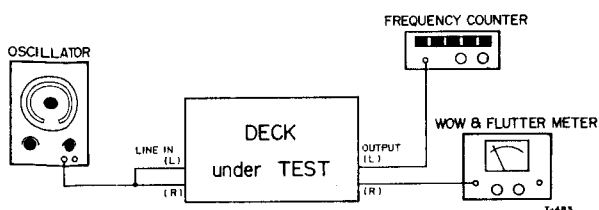

Fig. 7-5 Test Connections for Wow/Flutter and Tape Speed Test
The tape speed should be measured using TEAC flutter free tape, Model YTT-2003 (7-1/2 ips) and YTT-2002 (3-3/4 ips). These tapes contain a highly accurate 3,000 Hz tone. Connect a digital frequency counter to either line OUTPUT jack. See Fig. 7-5. The indicated frequency should be 3,000 Hz ( $\pm 30$  Hz) for all speeds during playback of the tape.
1. Connect Test equipment to the deck as shown Fig. 7-5. (Except oscillator).
1. Connect Test equipment to the deck as shown Fig. 7-5.